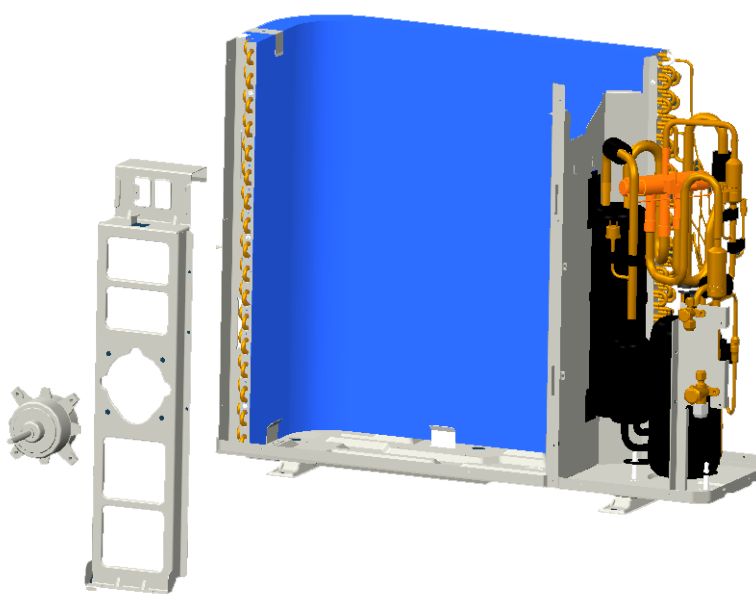

Fig.10
- Loosen the wire of motor, and pull it through the hole. Remove the motor. [See Fig. 10]